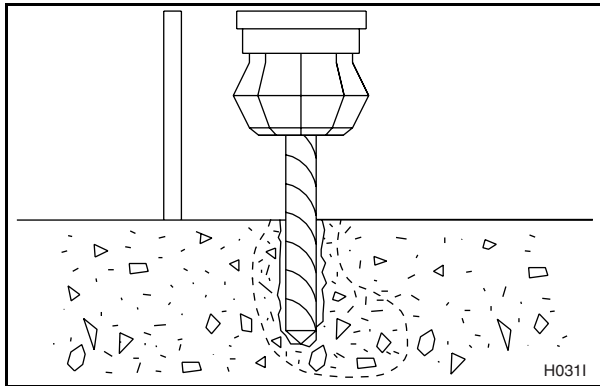

Figure 30
3. Drill and chisel out a conical hole large enough to accept the J-bolt. See Figure 30.